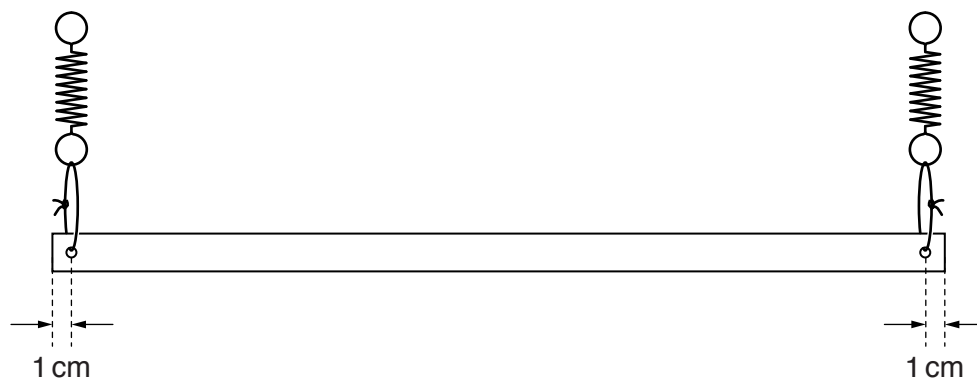

Fig. 1.1
- 1 The wooden strip should have two holes drilled through it at the positions shown in Fig. 1.1. A spring should be attached to each end of the strip using a string loop of approximate circumference 8 cm as shown.